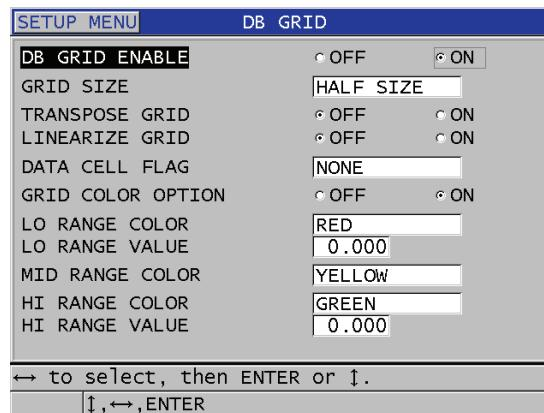

Figure 10-9 Changing DB grid parameters
3. In the **DB GRID** screen (see Figure 10-9 on page 140), perform the following steps.